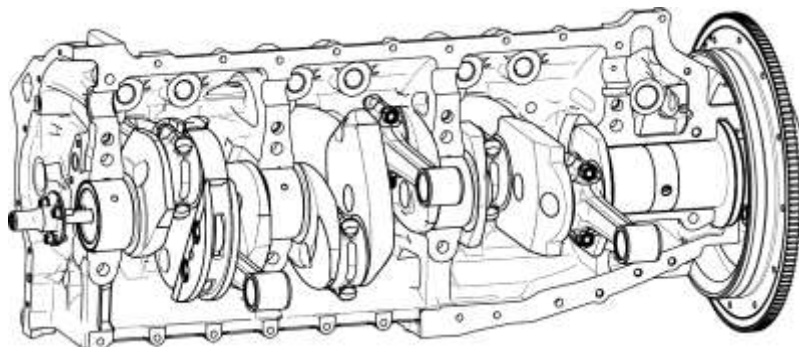

Figure 80
- (2) Install the front bearing halves, where they touch (butt together) around the crankshaft.
- (3) Lift the crankshaft assembly by the connecting rods. Lower the crankshaft assembly into the crankcase half (Figure 80). Let the connecting rods extend through the cylinder base openings in the crankcase half.